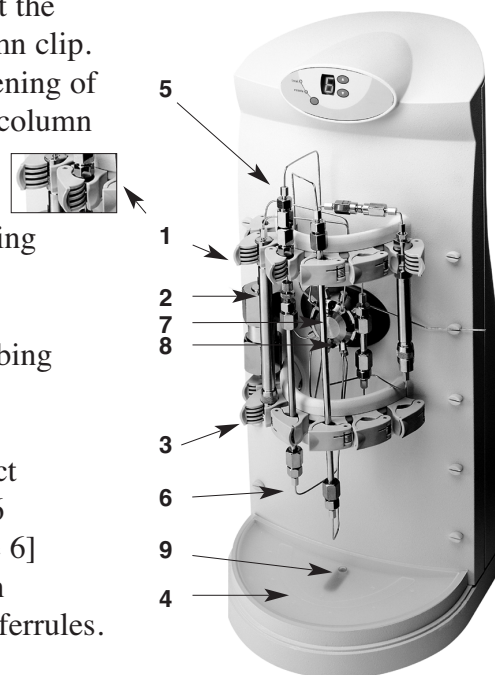

**Fig. 4. Four line control.**
- a) 4-line *BCD* control. The control instrument used must have four (4) *TTL* or *contact closure outputs*. This method of control allows direct access to any chosen column position.
- (1) 4-Line *BCD* Control (independent selection of any position):
- (b) Wiring the *interface cable* (1) to the HPLC (2) with 4-line *BCD* control (see Fig. 4):
(4) A 4-line *BCD* generic time programming example follows. (Note: the actual programming will vary depending on the manufacturer of the HPLC used):
(5) Wiring the interface cable (1) to the HPLC (2) with 4-line *BCD* control is shown in Fig. 4.